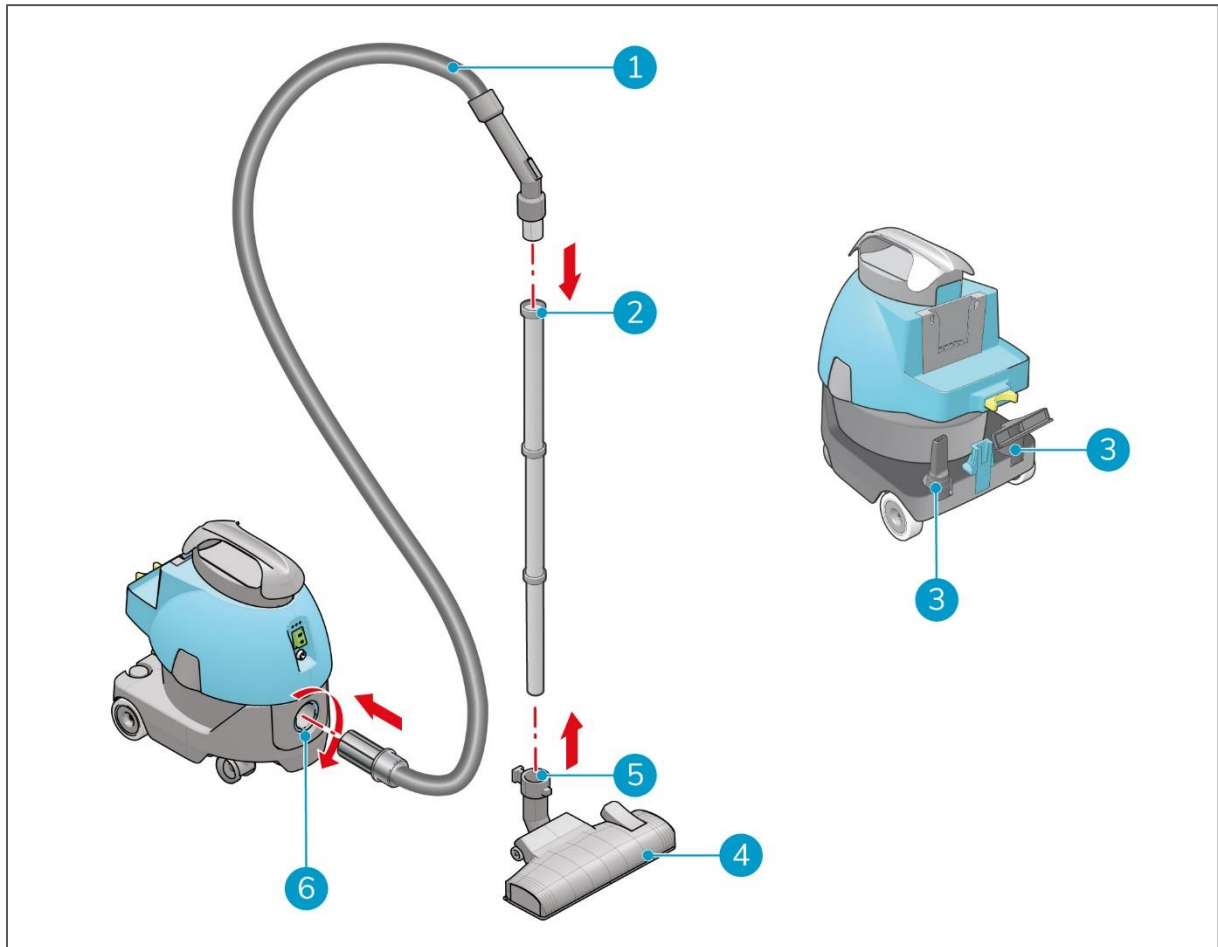

Figure 8
1. Insert the hose (Figure 8, pos 1) into the hose intake (Figure 8, pos 6).
3. Insert the hose into the wand (Figure 8, pos 2).
4. Attach the standard floor tool (Figure 8, pos 4) on the narrow end of the wand (Figure 8, pos 5).
5. Place the crevice tool and the upholstery tool onto the brackets (Figure 8, pos 3).